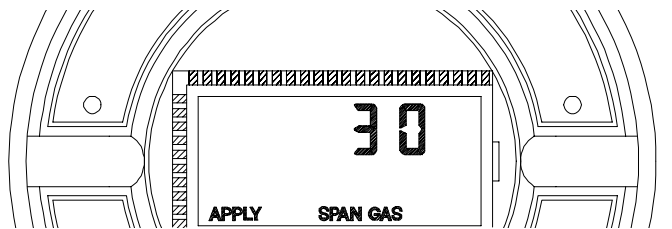

Figure 8. Apply SPAN Gas Flag
- **APPLY SPAN GAS** Flag (FIGURE 8)